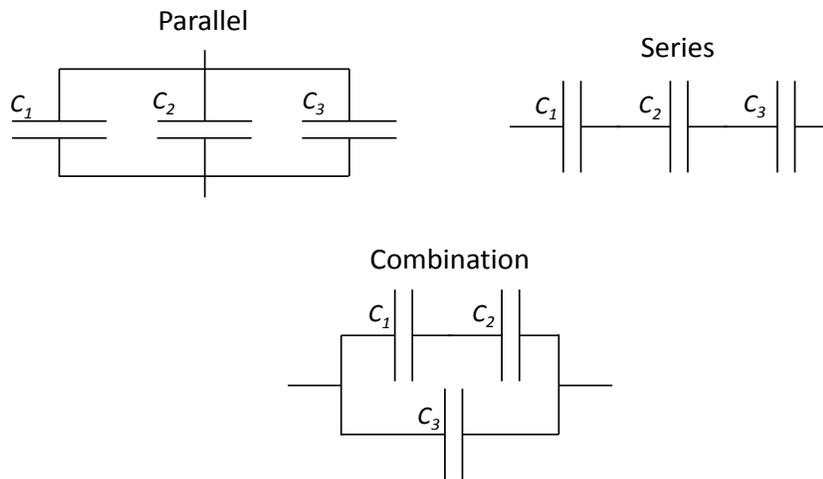

Figure 3: Various three capacitor configurations
4. Connect C_1 , C_2 , and C_3 in series as shown in figure 3 on page 4. Repeat steps 1 and 2 with this configuration in place of C_1 .
6. Finally, connect C_1 and C_2 in series, and then connect C_3 in parallel with both C_1 and C_2 as in the “Combination” diagram in figure 3. Again, repeat steps 1-2 with this configuration in place of C_1 .